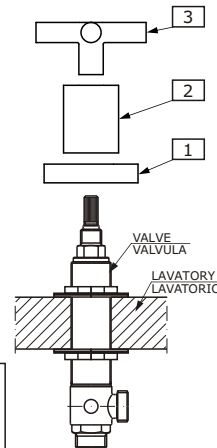

FIG. 3b
● In case of **INFINITY MODELS** (see fig. 3b): Place handle base (1). Over side hole of mounting surface¹⁾. Screw shroud (2) onto valve until against base. Do not overtighten. Insert cross handles (3) on the valves.